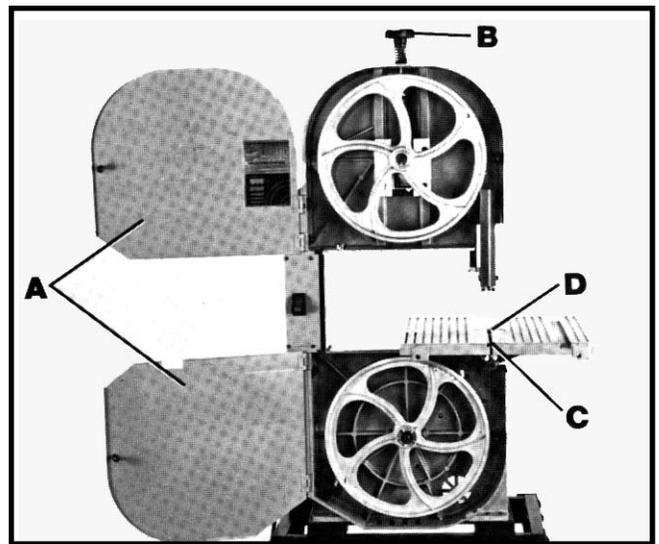

Fig. 28
2. Open upper and lower wheel guards (A) Fig. 28.
3. Release tension on the band saw blade by turning tension knob (B) Fig. 28, counter-clockwise.
4. Remove table alignment screw (C) Fig. 28, and table insert (D).